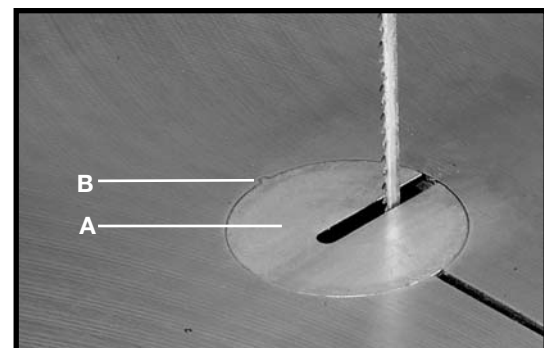

Fig. 19
Place the table insert (A) Fig. 19 in the hole provided in the table. Engage the protrusion on the insert in the indent (B) in the table.